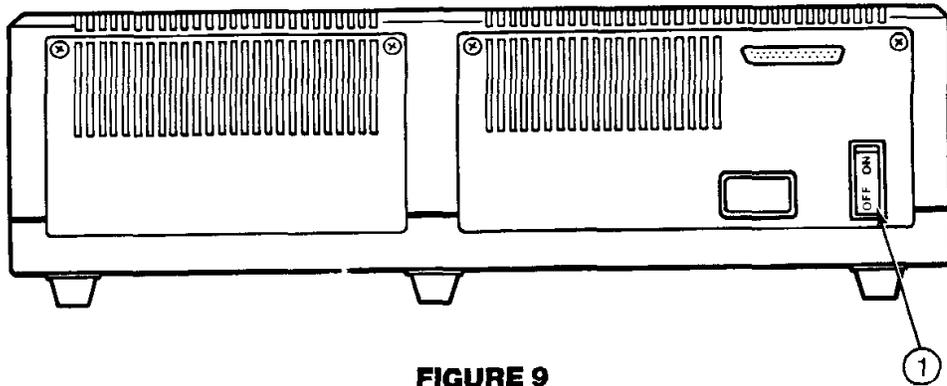

FIGURE 9
20. Turn the AC power switch on the ProFile to the "on" position. (Figure 9, Item 1). Do not turn the Apple /// on before turning on the ProFile.